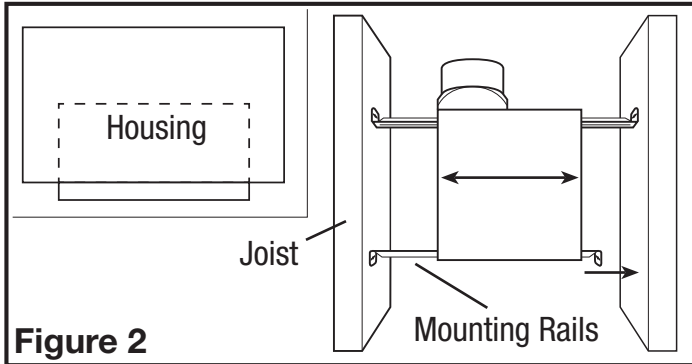
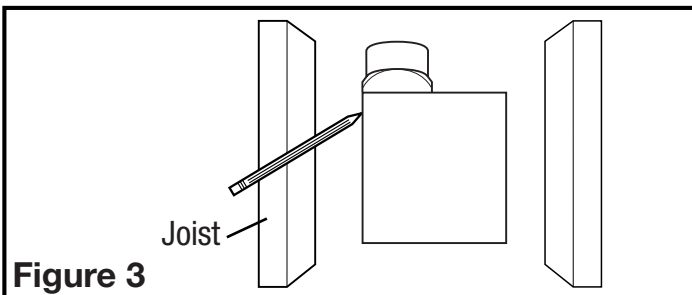

Figure 2
Figure 3
1. Install the rails into the mounting channel on the housing. Center the mounting channel in the slots on the housing, then from inside the housing tighten the mounting channel screws so the channel is securely in place. Position the housing next to the joist. Line up housing so that it will be flush with the finished ceiling. Secure the ends of the rails with screws or nails (not included) to the joists and slide the housing into the final position (**Figure 2**).
1. Set housing in position between the joist and trace an outline onto the ceiling material (**Figure 3**). Set housing aside and cut opening, being careful not to cut or damage any electrical or other hidden utilities. Install the rails into the mounting channel on the housing. Center the mounting channel in the slots on the housing, then from inside the housing tighten the mounting channel screws so the channel is securely in place. Position the housing in the previously cut hole so that it is flush with the finished ceiling. Secure the ends of the rails to the joists (**Figure 2**).